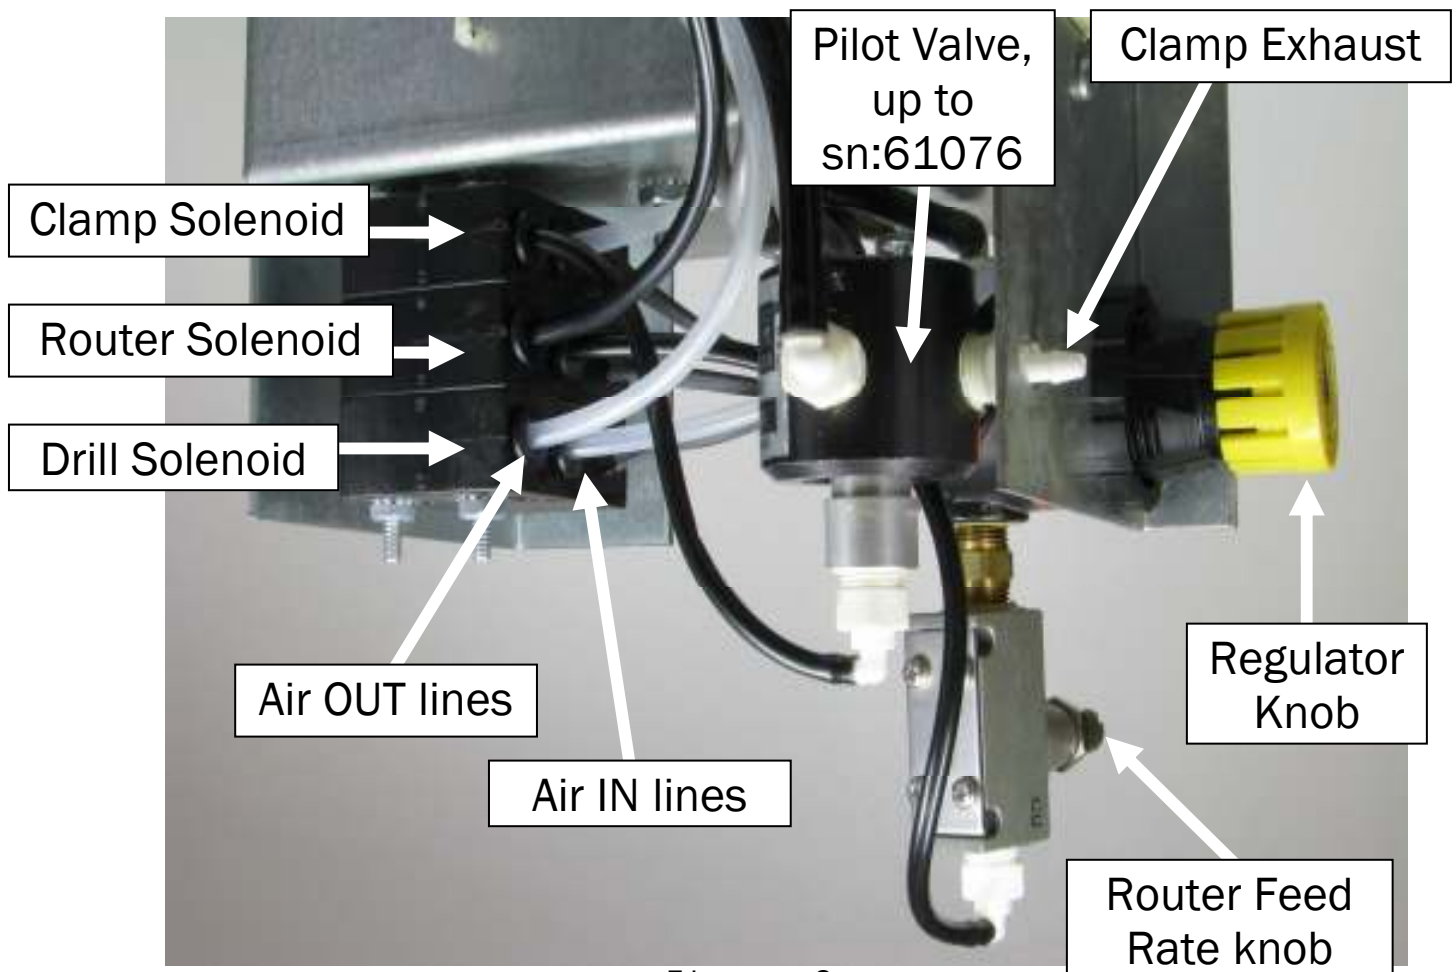

Figure 3
2. Swap the "Air Out" lines between the Clamp Solenoid and the Router Solenoid. **See fig. 3.**